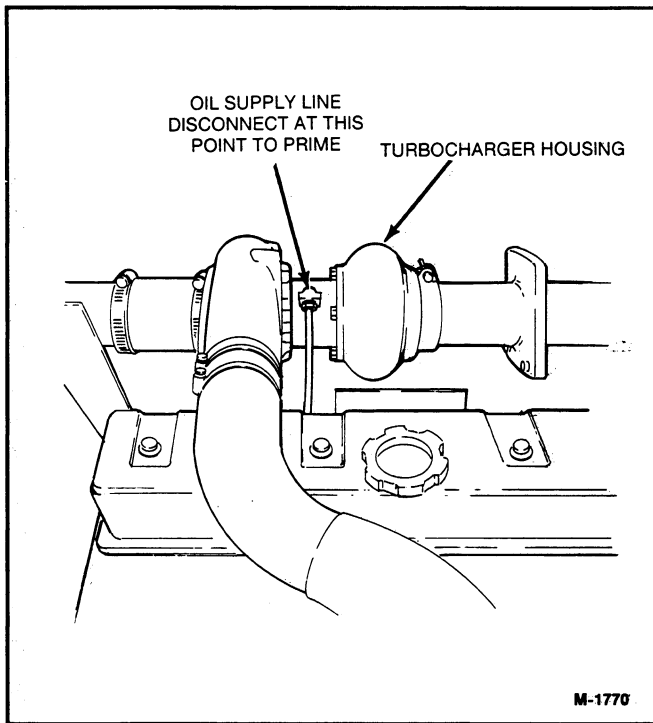

FIGURE 6-2. PRIMING TURBOCHARGER
1. Remove oil inlet line from turbocharger housing (Figure 6-2).